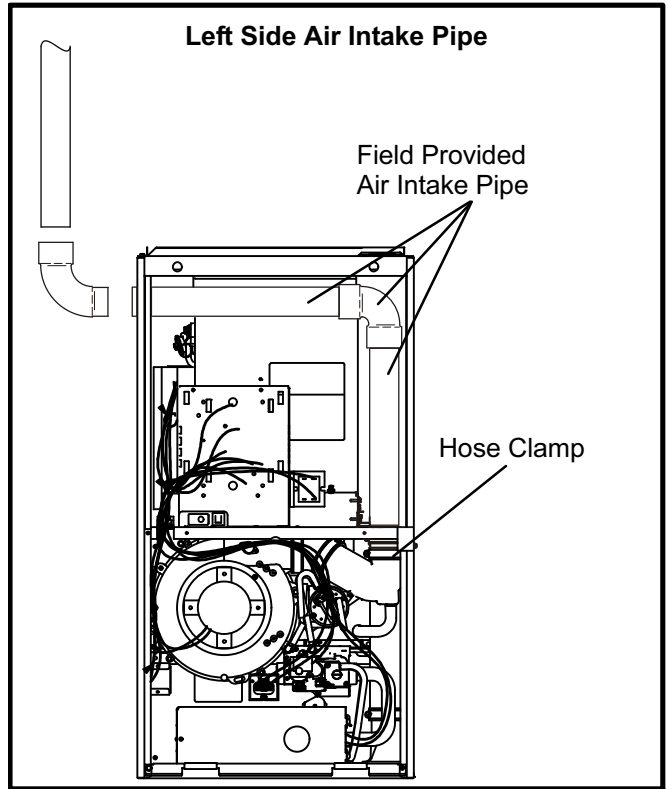

FIGURE 3
- 10 - Install a field provided 2" PVC intake air pipe in place of the air intake pipe removed. Connect to the rubber fitting below. Once the pipe is properly positioned, tighten the hose clamp. Slide another piece of field provided 2" PVC pipe through seal plate and connect to the first piece with a field provided 90 degree elbow. See figure 3.